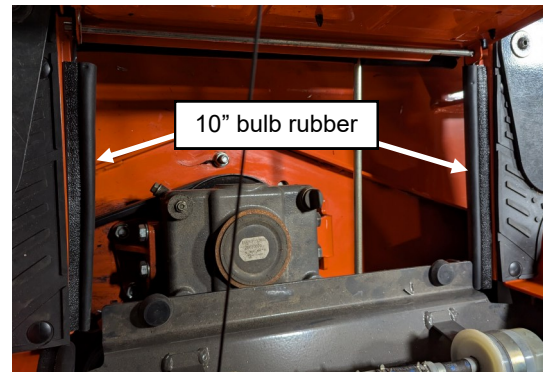

Fig. 10.9 (Floor pan opening with added seals)
- 10.9 Place the two identical 10" pieces of bulb rubber along the side edges of the opening as shown in figure 10.9.